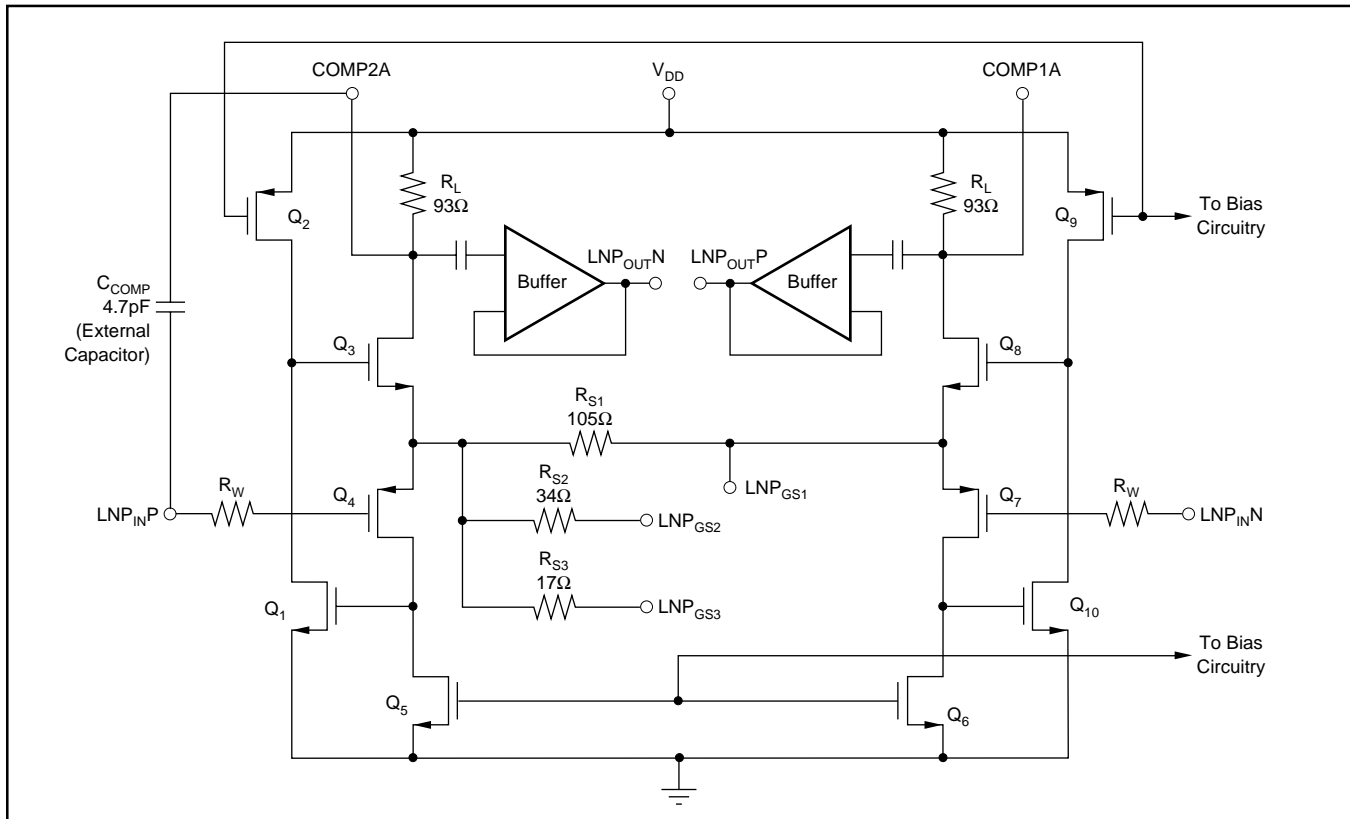
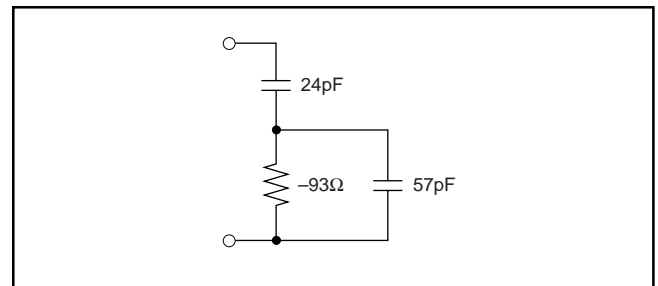

FIGURE 4. Schematic of the Low Noise Preamplifier (LNP).
FIGURE 11. VCA2613 Input Impedance.
The LNP is designed to achieve a low noise figure, especially when employing active termination. Figure 4 is a simplified schematic of the LNP, illustrating the differential input and output capability. The input stage employs low resistance local feedback to achieve stable low noise, low distortion performance with very high input impedance. Normally, low noise circuits exhibit high power consumption due to the large bias currents required in both input and output stages. The LNP uses a patented technique that combines the input and output stages such that they share the same bias current. Transistors *Q4* and *Q5* amplify the signal at the gate-source input of *Q4*, the +IN side of the LNP. The signal is further amplified by the *Q1* and *Q2* stage, and then by the final *Q3* and *RL* gain stage, which uses the same bias current as the input devices *Q4* and *Q5*. Devices *Q6* through *Q10* play the same role for signals on the -IN side.
It is also possible to create other gain settings by connecting an external resistor between  $LNPG_{S1}$  on one side, and  $LNPG_{S2}$  and/or  $LNPG_{S3}$  on the other. In that case, the internal resistor values shown in Figure 4 should be combined with the external resistor to calculate the effective value of  $R_S$  for use in Equation (1). The resulting expression for external resistor value is given in Equation (2).
where  $R_{EXT}$  is the externally selected resistor value needed to achieve the desired gain setting,  $R_{S1}$  is the fixed parallel resistor in Figure 4, and  $R_{FIX}$  is the effective fixed value of the remaining internal resistors:  $R_{S2}$ ,  $R_{S3}$ , or  $(R_{S2} \parallel R_{S3})$  depending on the pin connections.
For greatest flexibility and lowest noise, the user may wish to shape the frequency response of the LNP. The COMP1 and COMP2 pins for each channel (pins 10 and 11 for channel A, pins 26 and 27 for channel B) correspond to the drains of  $Q_3$  and  $Q_8$ , see Figure 4. A capacitor placed between these pins will create a single-pole low-pass response, in which the effective  $R$  of the  $RC$  time constant is approximately  $186\Omega$ .
The VCA2612 and the VCA2613 are very similar in performance in all respects, except in the area of noise performance. See Figure 4 for a schematic of the LNP. The improvement in noise performance is because the input wiring resistor ( $R_W$ ) of the VCA2613, see Figure 4, has been considerably reduced compared to the VCA2612. This brings the input noise of the VCA2613 down to  $1.0\text{nV}/\sqrt{\text{Hz}}$  compared to VCA2612's  $1.25\text{nV}/\sqrt{\text{Hz}}$ . The input impedance at the gate of either  $Q_4$  or  $Q_7$  can be approximated by the network shown in Figure 11. The resistive component shown in Figure 11 is negative, which gives rise to unstable behavior when the signal source resistance has both inductive and capacitive elements. It should be noted that this negative resistance is not a physical resistor, but an equivalent resistance that is a function of the devices shown in Figure 4. Normally, when an inductor and capacitor are placed in series or parallel, there is a positive resistance in the loop that prevents unstable behavior.